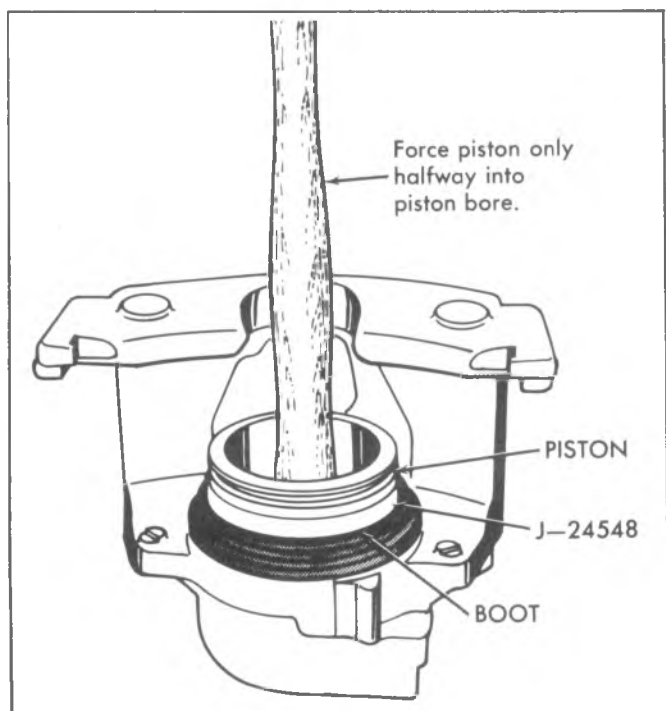

Fig. 5-41--Installing Piston in Caliper
3. Place the piston inside of Tool J-24548, force the piston halfway into the piston bore using a wood hammer handle or "C" clamp (fig. 5-41); remove Tool J-24548. Check to be sure the boot was not unseated at piston installation. Make sure the outer bead of the boot is seated in the piston outer groove.